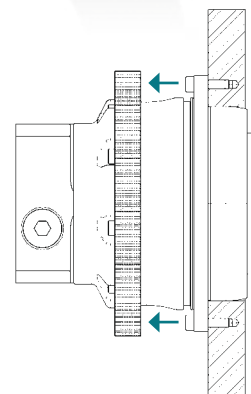

Fig. 3
4. Remove the mounting ring (Fig. 3)